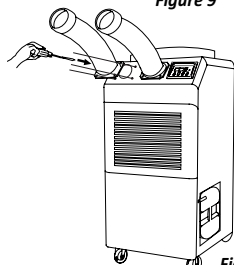

Figure 11
3. Use screws (enclosed inside of box with cool air outlet hose(s)) to install the cool air outlet hose(s) on the air conditioner as shown in Figure 11.